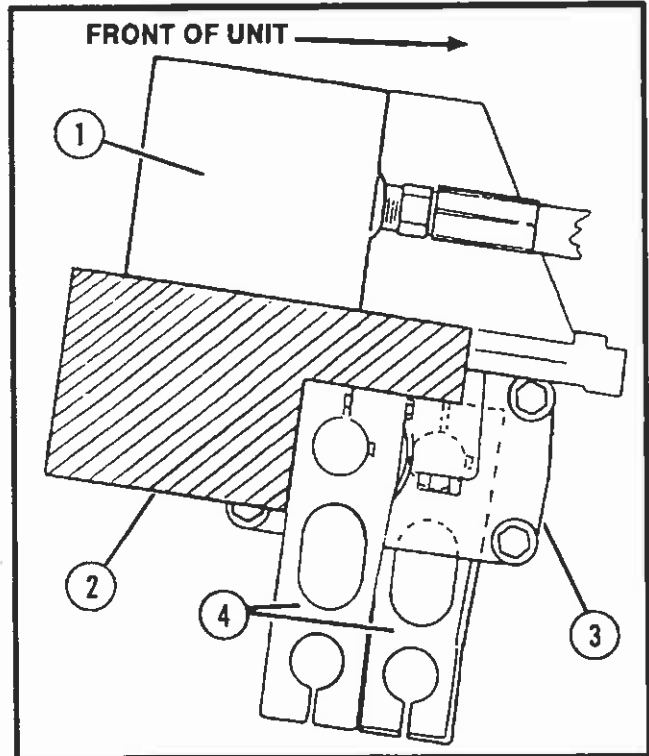
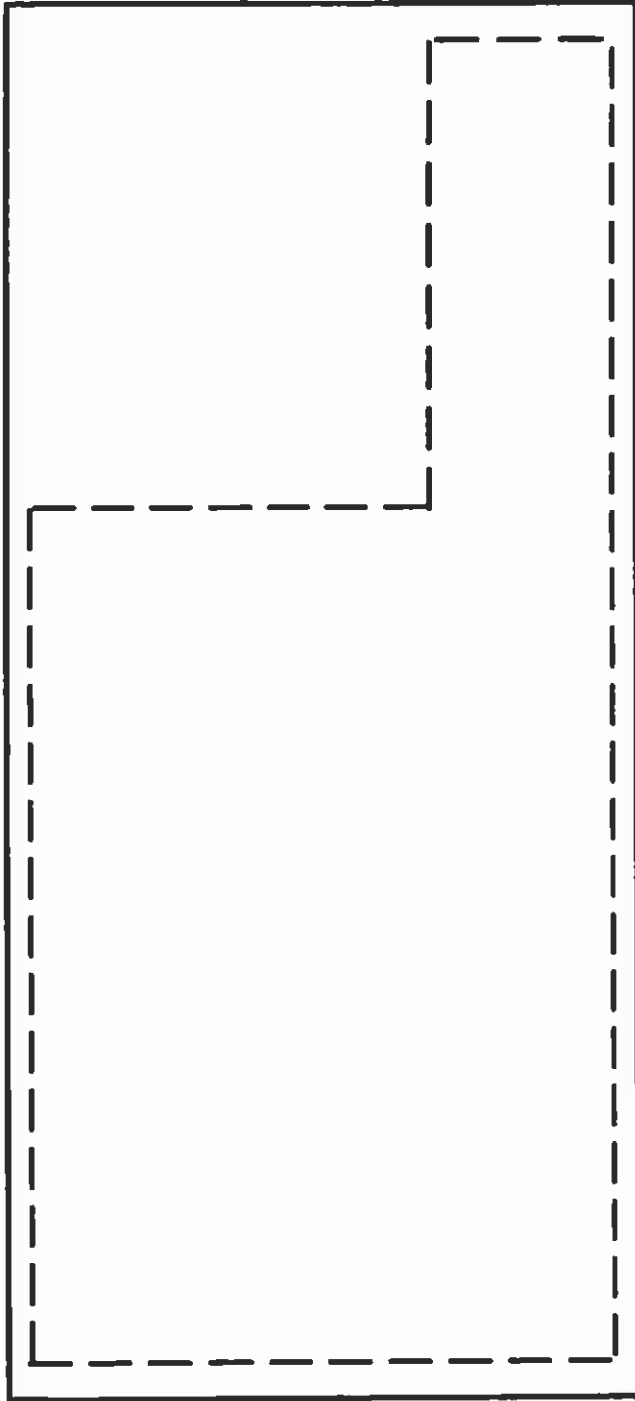

FIGURE 14
FIGURE 15
2. Check alignment of keyways by raising the aerating head and making a gauge using the template in Figure 15. Place one edge along the bottom of the hydraulic tank and the other edge along the vertical link. Then hold the vertical link in place and move the gauge to the other vertical link on the same gearbox. The square edges of the gauge should fit flush against the vertical link and the bottom of the hydraulic tank, without moving the tine ram. See Figure 14.